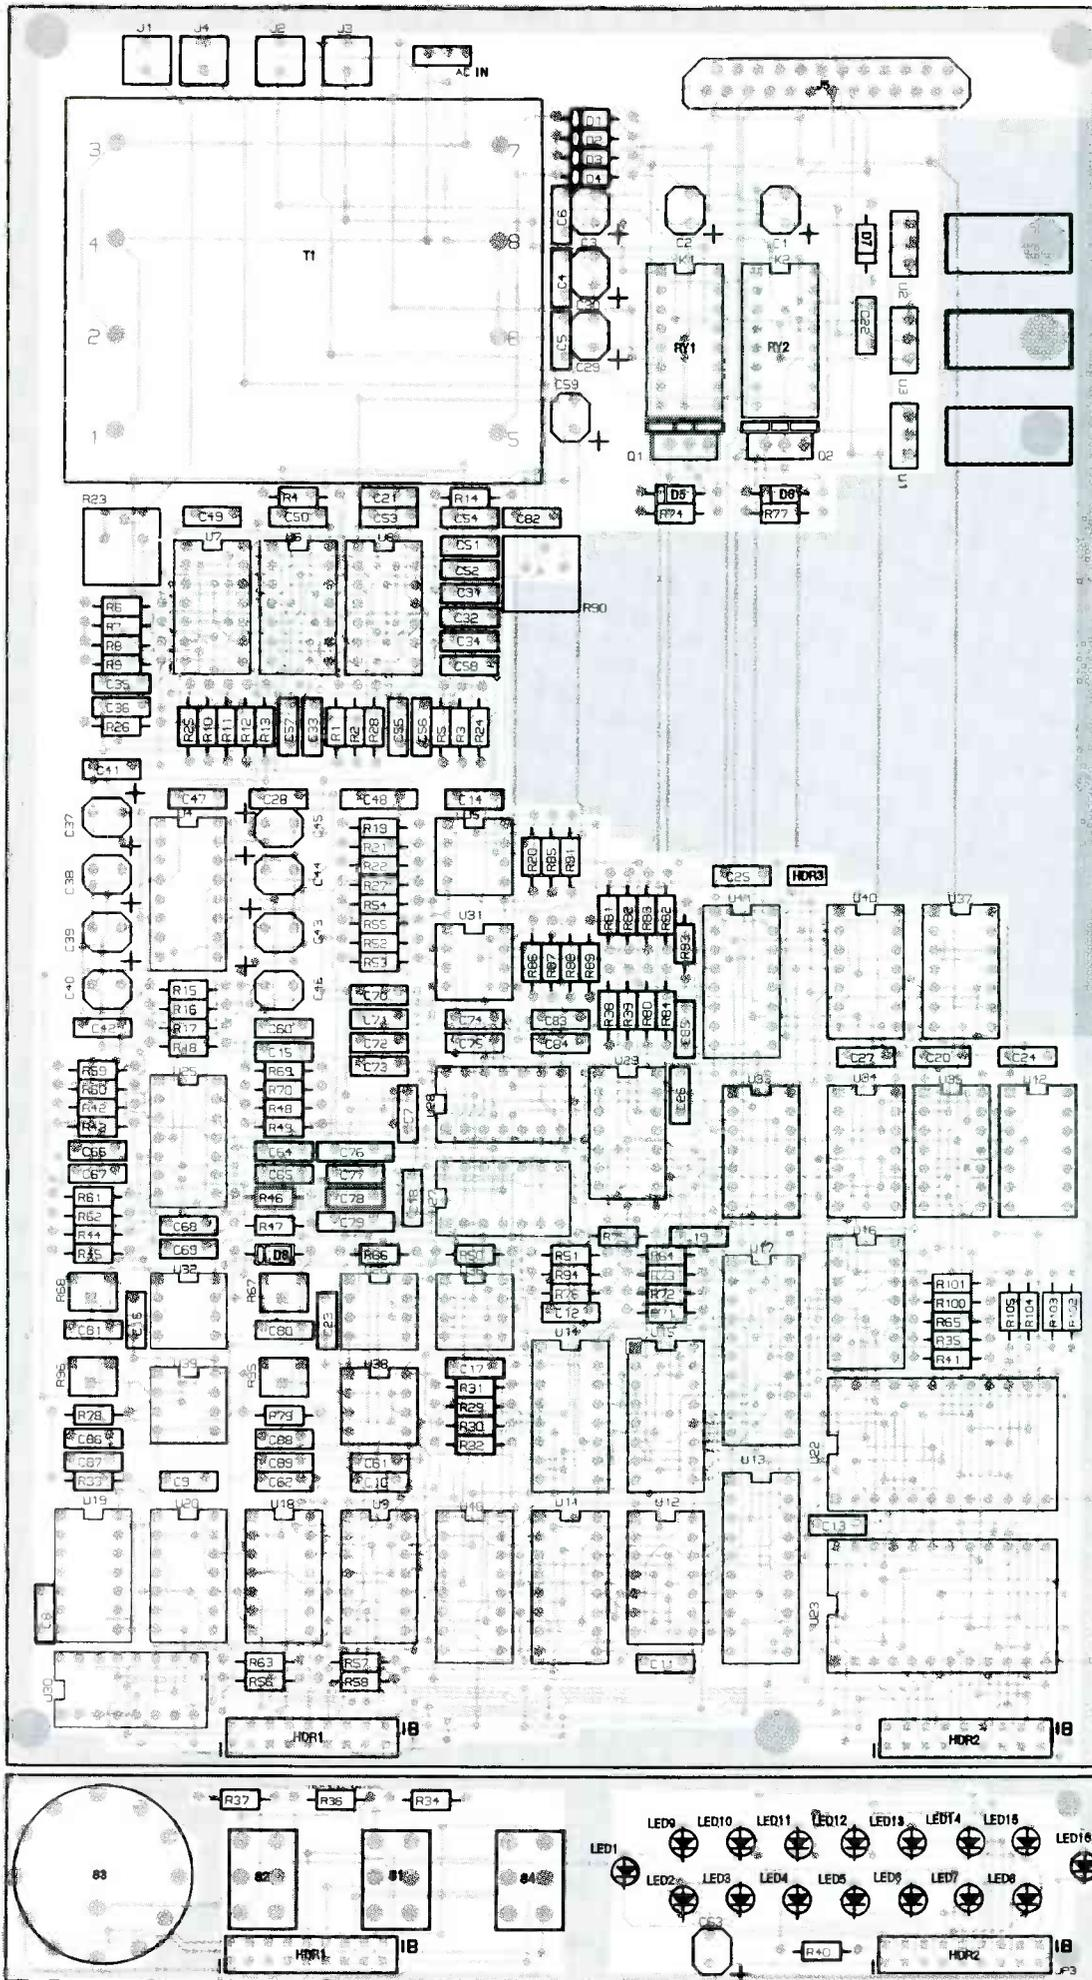

FIG. 6—PARTS-PLACEMENT DIAGRAMS for the main board and the display board. The main board is very complex, so you probably won't want to make it yourself.
A variety of DSO's are available; see Table 1 for a list of some of the major manufacturers. Figure 6 shows a Hewlett-Packard (HP) 54501A DSO, a low-cost version of its top model. The 54501A has four channels, a repetitive waveform bandwidth of 100 MHz, a single-shot bandwidth of 1 MHz, and a 10-megasample/s digitizing rate. It also features time-base and channel controls similar to those of analog oscilloscopes, but controlled via an on-screen menu and universal controls.
FIG. 6—THE HEWLETT-PACKARD 54501A DSO is a low-budget version of the manufacturer's top-of-the-line models. It has four channels, a repetitive waveform bandwidth of 100 MHz bandwidth, and a single-shot bandwidth of 1 MHz. It features a 10-megasample/s digitizing rate, and time-base and channel controls similar to those of analog oscilloscopes, but controlled through an on-screen menu and universal controls.
Various parts and kits of parts are available from the source mentioned in the parts list. Foil patterns for the two PC boards (the main board and the display board) are provided in PC Service. However, because of their complexity, they are not recommended for beginners. Parts-placement diagrams for the two boards are shown in Fig. 6; the two boards are connected together by two 18-pin right-angle headers (HDR1 and HDR2—HDR2 is not shown schematically, as it is used in various places throughout the circuitry).